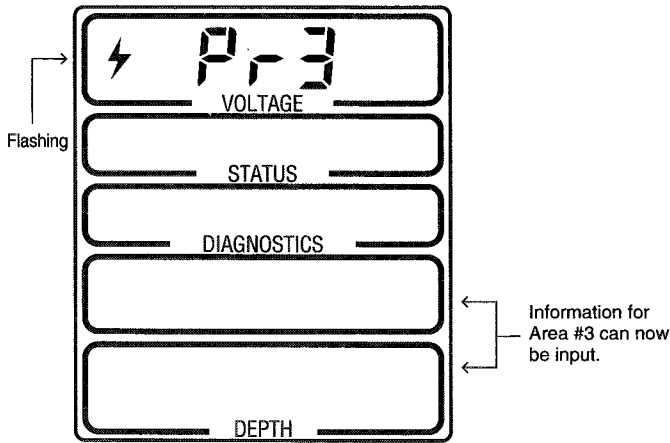

Figure 2.85
2. Press the SELECT button several times to advance to the “Pr3” screen illustrated in figure 2.85.